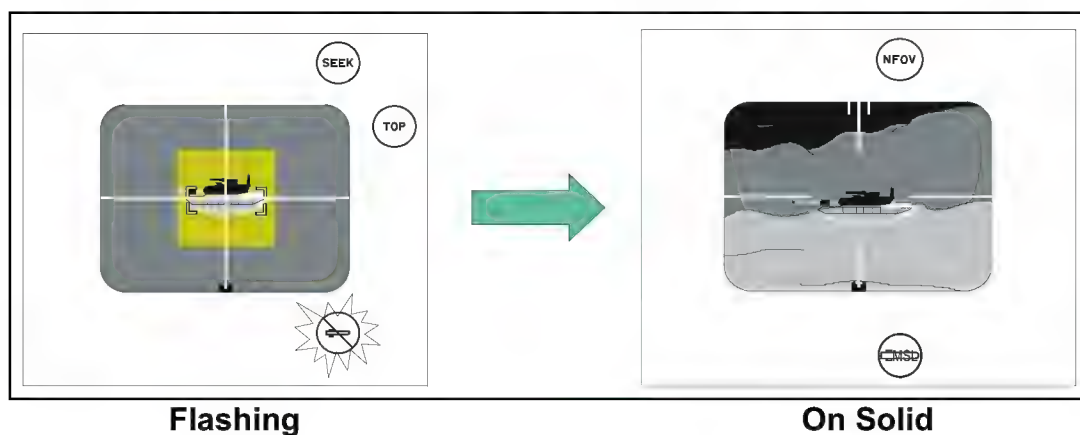

Figure D-6. MISSILE NOT READY indicator.
(2) **Malfunctions.** If the gunner has activated the seeker and not launched the missile, it is possible that the missile will overheat when the BCU is replaced (Figure D-6).